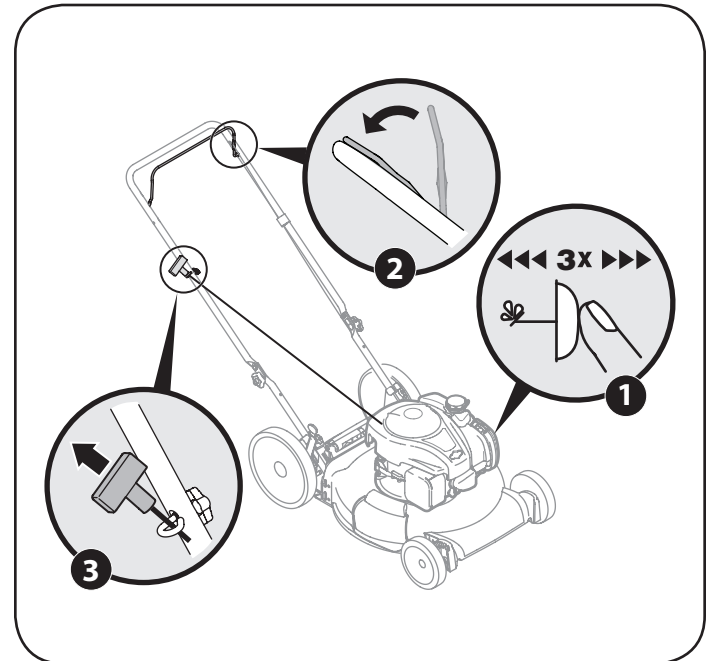

Figure 12
1. Push the primer three times. See Figure 12. Do not prime to restart a warm engine.
3. Holding these two handles together firmly, grasp recoil starter handle and pull rope slowly until resistance is felt, then pull with a rapid, continuous, full arm stroke. See Figure 12. Keeping a firm grip on the starter cord handle, let the rope rewind slowly. Repeat until engine cranks. Let the rope rewind each time slowly.